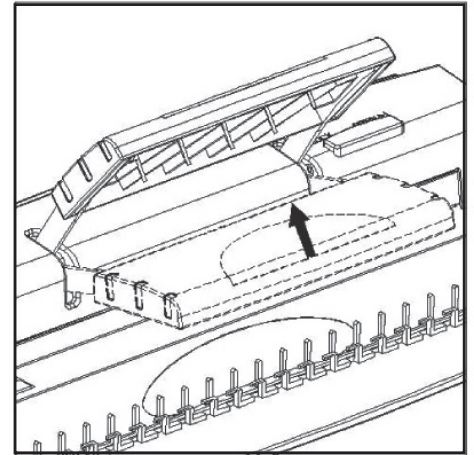

Figure 3
- So release the punching plate to the top position (see figure 3).